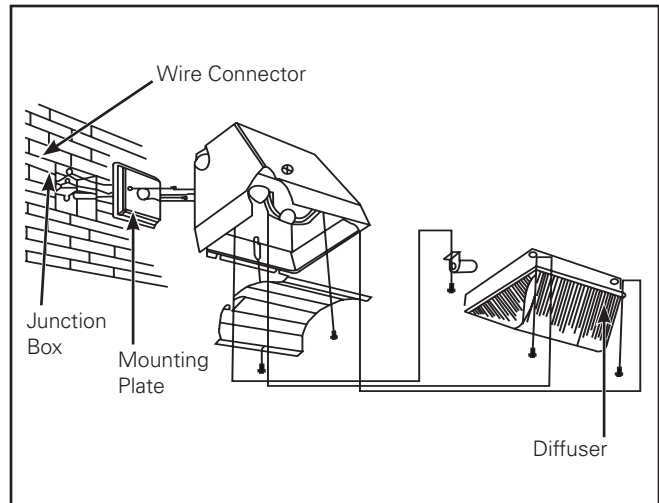

Figure 1.
1. Remove mounting plate from fixture and remove drain plugs. (Figure 1.)